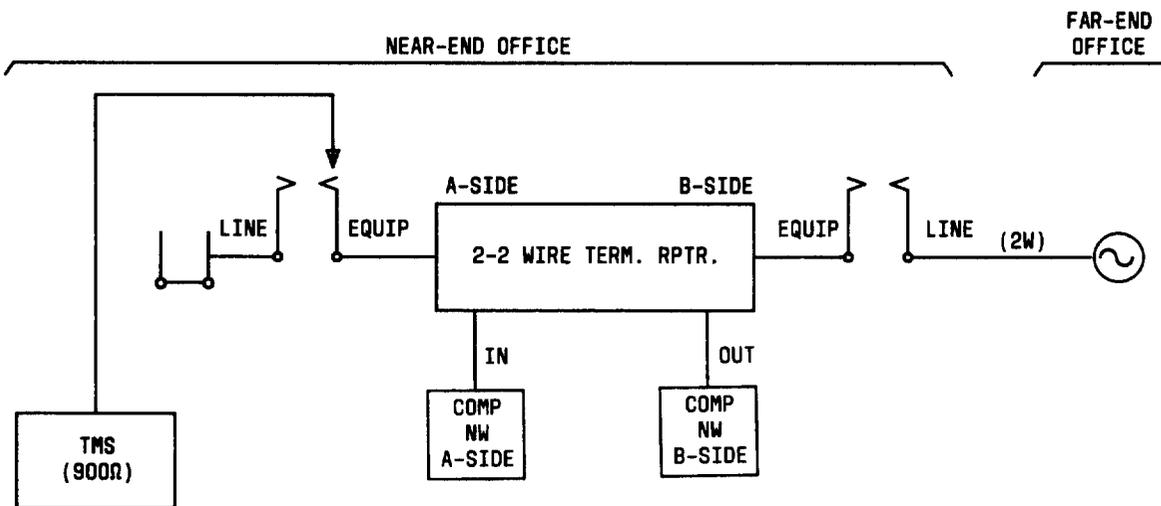

Fig. 10—Typical Test Configuration or Setting A-Side Level Output
8.09 The test configuration shown in Fig. 10 is for A-side level adjustments. Test equipment used for the following procedures is listed in Paragraph 8.06.
11	Connect TMS to A-side 2W EQUIP jack on the test extender (Fig. 10).